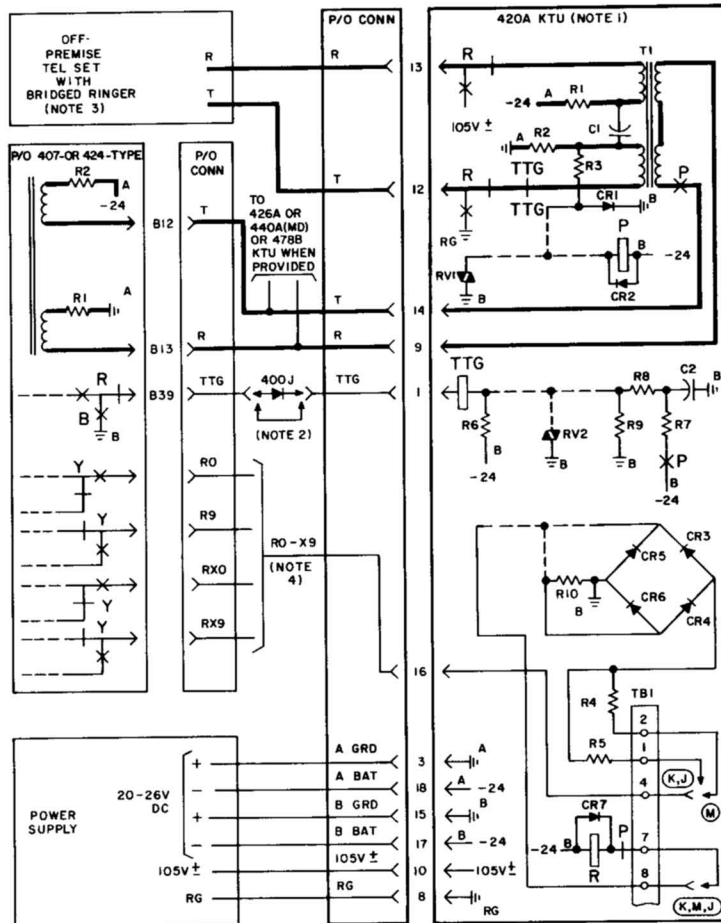

Fig. 7—Condensed Functional Schematic of 420A KTU (Long Line Circuit)
3. IF DSS IS REQUIRED, SEE FIG. 7
5. IF DSS IS REQUIRED, SEE FIG. 7.
6. 440A(WD) OR 478B KTU MAY BE USED TO PROVIDE TOUCH DIALING IN PLACE OF 426A WITH 427B (SERIES 4) OR C KTUS.